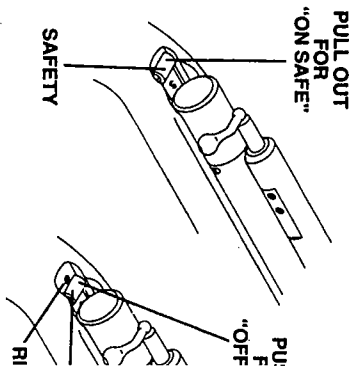

FIG. 2
NOTE: BE SURE THE RIFLE IS "OFF SAFE" BEFORE COCKING. (FIG.2). FAILURE TO FOLLOW THE PROCEDURE LISTED BELOW MAY RESULT IN JAMMING THE FIRING MECHANISM.
- To take the rifle "Off Safe", push the safety all the way forward. When you can see the red dot behind the safety the gun is "Off Safe" and ready to be fired. (Fig. 2).